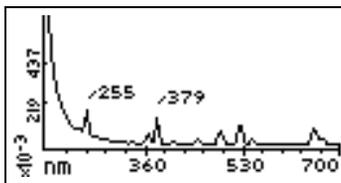
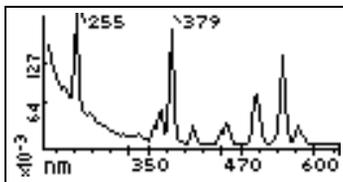

Figure 3-32 Sample Erbium Scan Graphical Display
Figure 3-34 Sample Erbium Scan with λ_1 Changed to 225 nm and λ_2 Changed to 600 nm
After a brief pause, the detector displays a sample scan graphically (Figure 3-32).
5. Press **Next** to display up to four highest peaks scanned (if four are found) within the specified range. Figure 3-33 shows the display of the four highest peaks for the sample erbium scan shown in Figure 3-32.
8. Press **Next** to advance through the four scaling parameters. Figure 3-34 shows the sample scanned in Figure 3-32 scaled by changing the wavelength parameters to 225 and 600 nm.